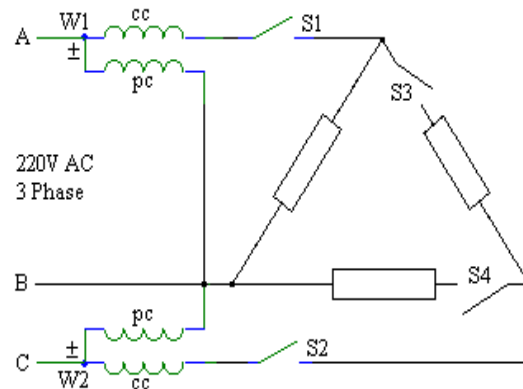

Figure 2: Delta Connection Load
4. Connect the lamps and the ballasts in balanced delta as shown in figure 2 and repeat steps 2 and 3.